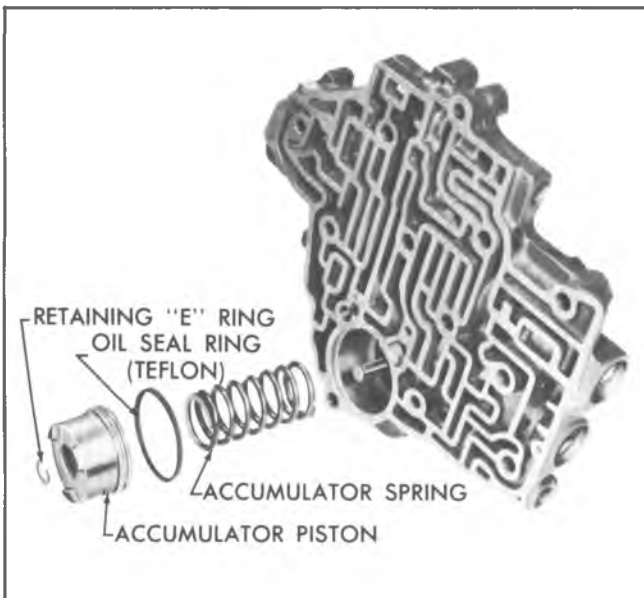

Fig. 9B--Front Accumulator Assembly - Exploded
4. Remove front accumulator piston and spring (fig. 9B).
NOTE: See figure 9B. Do not remove the teflon oil seal ring from the front accumulator piston unless the oil seal ring requires replacement. For service, the oil seal ring is cast iron.